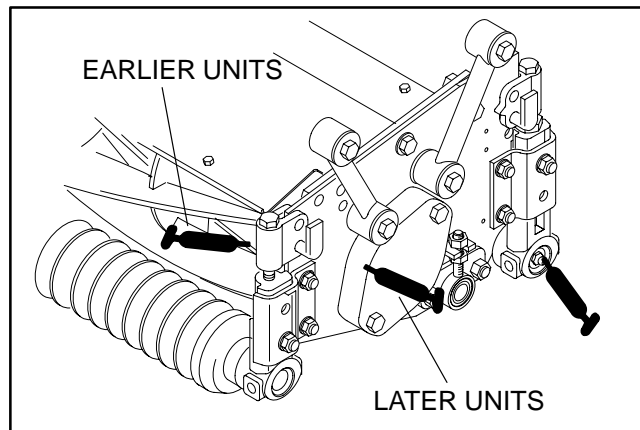
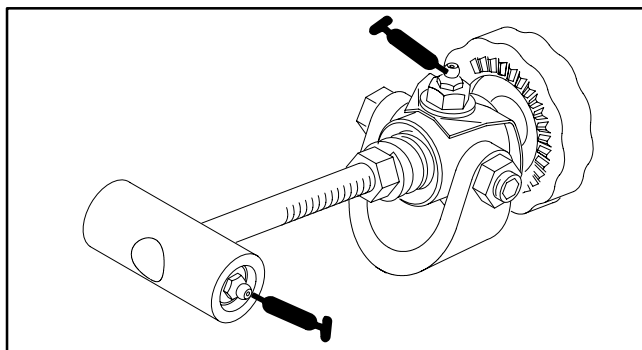

Figure 12
Figure 11
Greasing Bearings, Bushings, and Pivot Points (Fig. 11 and Fig. 12)
- A. Bedknife adjuster (2) (Fig. 11). Grease these fittings every 50 hours.
- B. Reel bearings (inside sideplate), (2) and front and rear rollers (2 ea.) (Fig. 12). Grease these fittings every 8 hours.